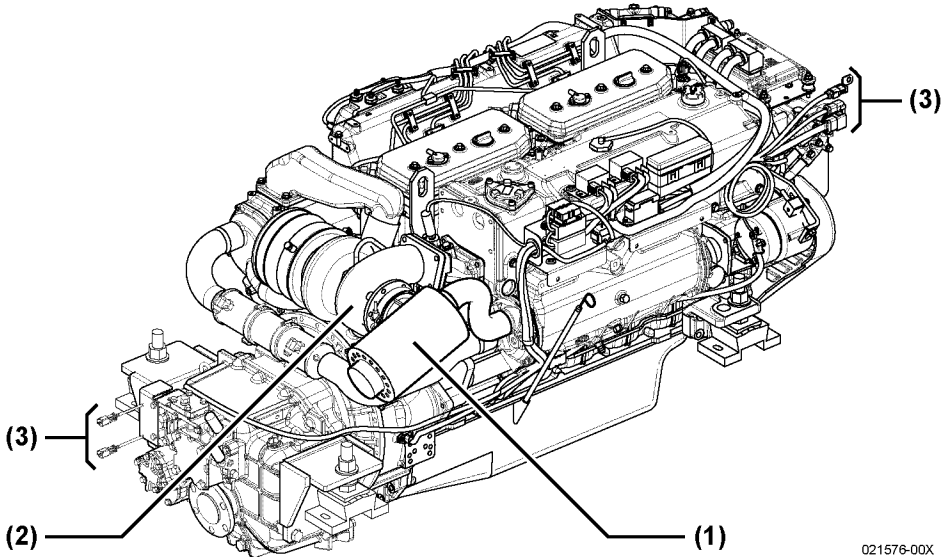

Figure 19
The mixing elbow (**Figure 19, (1)**) is attached to the turbocharger (**Figure 19, (2)**). The exhaust gas is mixed with seawater in the mixing elbow.
Have your authorized Yanmar Marine dealer or distributor check the wiring connectors (**Figure 19, (3)**).